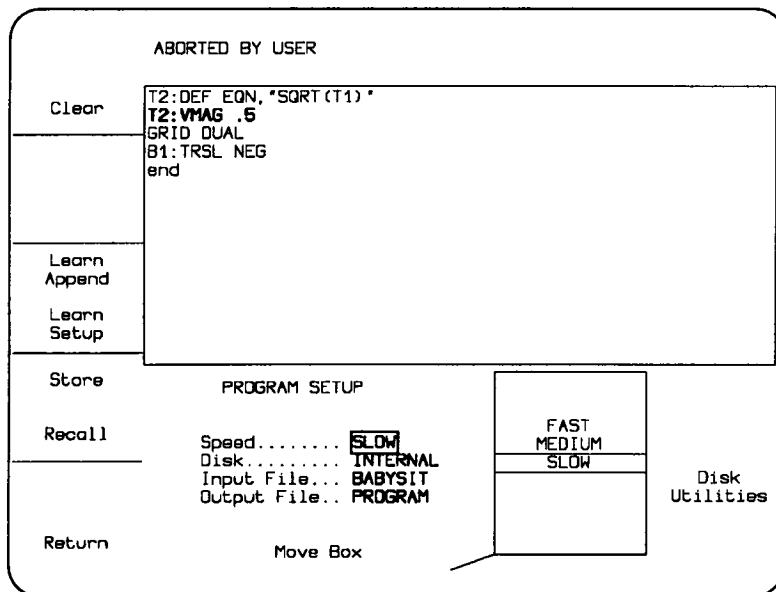

Figure 3.46: Example Program Setup Screen
To examine and modify programs, or to save and recall them to and from disk, use the Program Setup screen. To display the Program Setup screen, press MODIFY (24) and then the Program softkey (3). The Program Setup screen will display its current selections. Figure 3.46 shows an example Program Setup screen.
In Figure 3.46, the upper half of the screen shows the current program. One command is on each line of the program. Commands result from key presses and knob changes.
A Program command may be any remote command described in the *LeCroy 7200A Precision Digital Oscilloscope Remote Programmer's Manual*. For example, GRID DUAL indicates that two grids have been selected. In Figure 3.46, the DEF command indicates the new equation for trace 2, the square root of trace 1. This command results from using the Trace Setup screen.
In Figure 3.46, the VMAG (vertical expansion magnitude) command is highlighted. A highlighted command indicates where the program was terminated during execution. The highlighted command was not completed. A message at the top of the screen indicates that the program was aborted by the user.